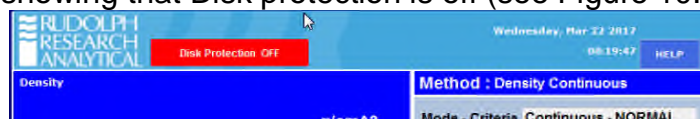

Figure 10.7 – Disk Protection Status Indicator
7. When system reboots you will see a red box in the Main Screen header showing that Disk protection is off (see Figure 10.7)